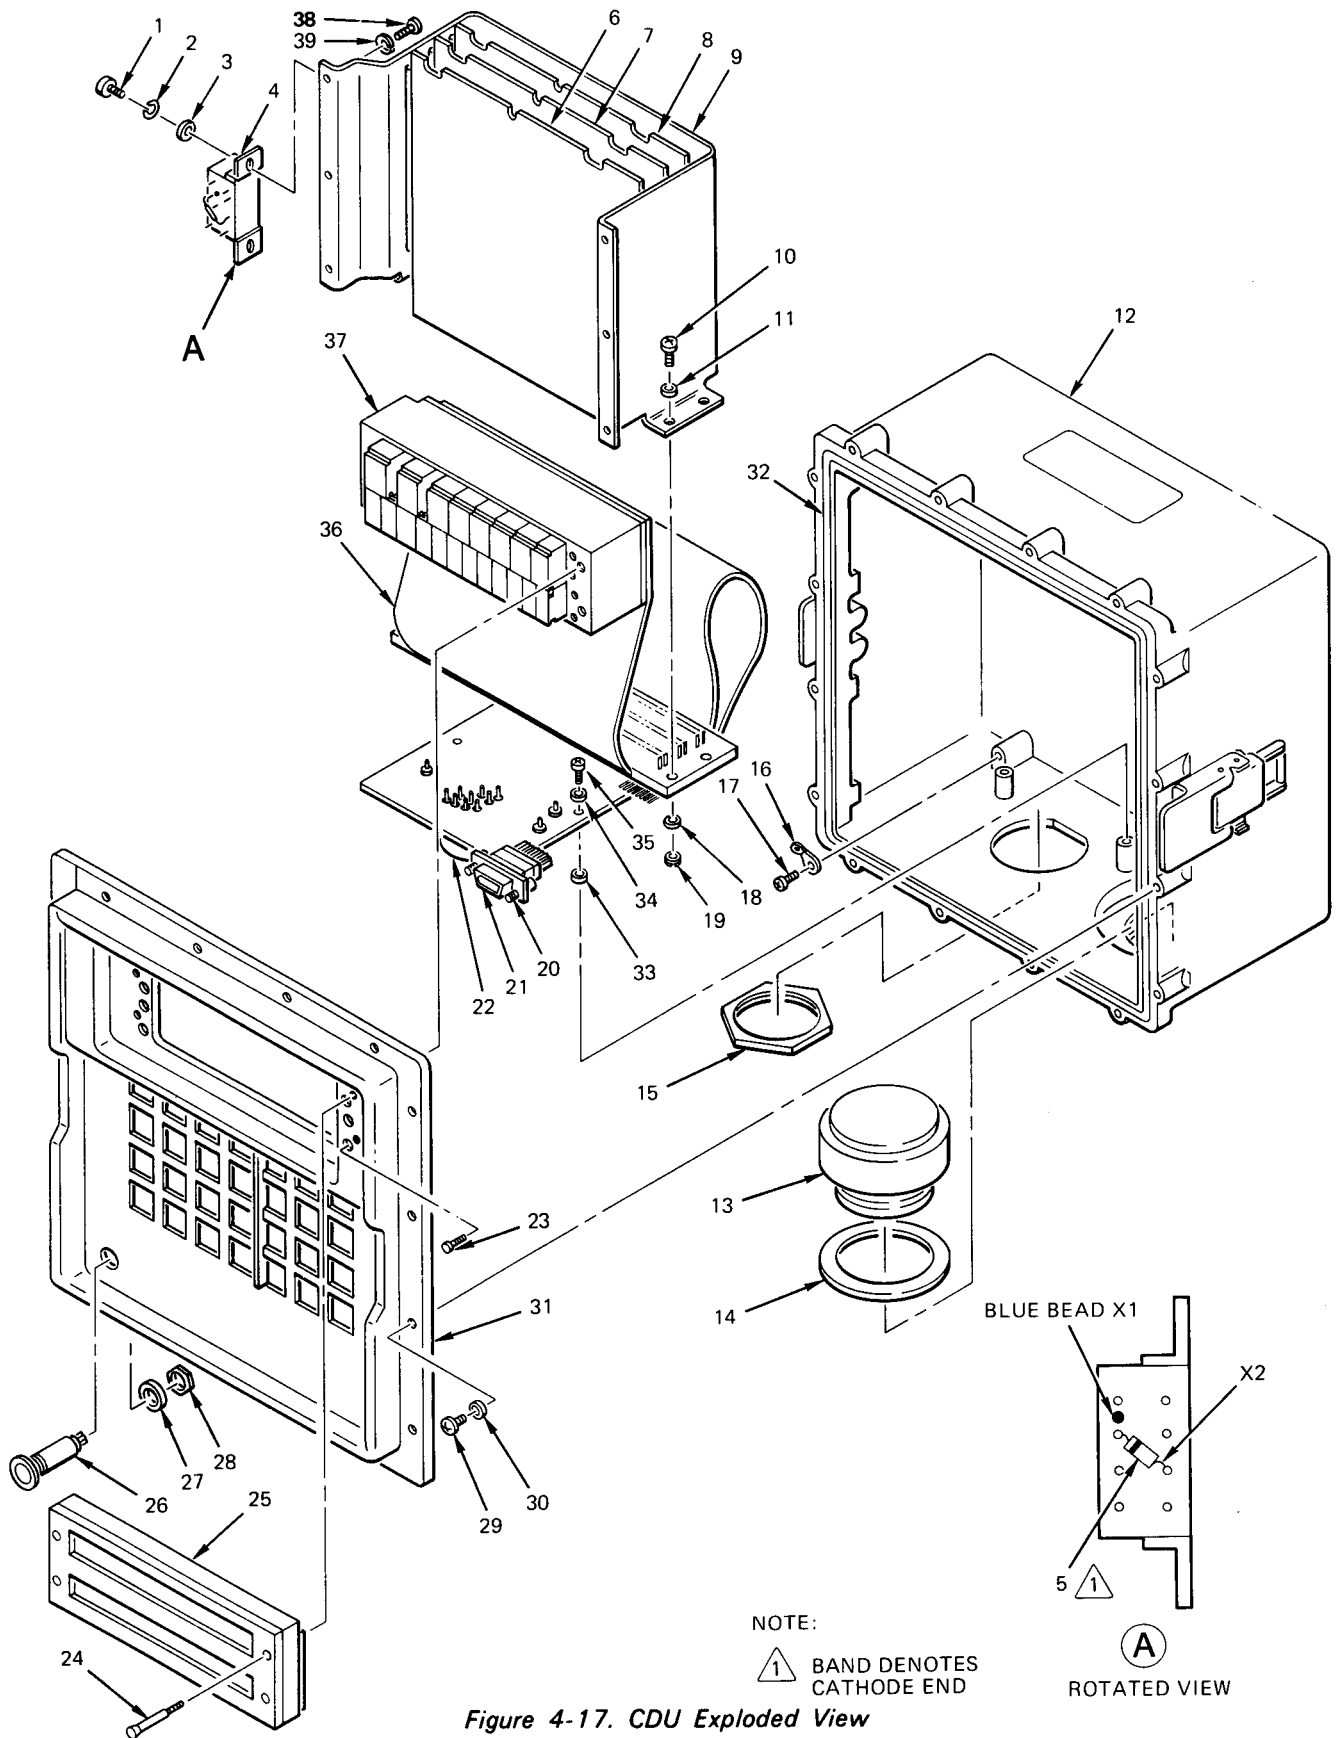

Figure 4-17. CDU Exploded View
b. **CDU Repair.** CDU repair consists of removal and replacement of circuit card assemblies, chassis-mounted components, cover, panel, gasket, and repair of the flexible harness, Figure 4-17 is an exploded view of the CDU, Refer to table 3-6 for circuit card identification. Replacement of circuit cards are described in paragraph 3-7.
(1) **Control and display unit cover.** Remove and replace control and display unit cover (12, figure 4-17) as follows:
Legend for Figure 4-17
(2) *Relay K1.* Remove and replace relay K1 (4, figure 4-17) as follows:
1. Prepare and install plastic tubing on diode. Solder diode CR1 leads to relay terminals observing polarity and note of figure 4-17.
2. Solder tagged wires to terminals of relay K1 (4).
3. Install relay K1 (4) and secure to control display unit holder (9) with two screws (1), lockwashers (2) and washers (3). To ensure proper orientation blue bead must be located as shown in figure 4-17.
4. Inspect gasket (32). Replace if cracked, torn loose, or excessively compressed.
5. Position control and display panel (31) against control and display unit cover (12). Torque 16 screws (29) and washers (30) securing control and display panel (31) to control and display unit cover (12) 5 inch-pounds using procedures described in paragraph 3-11.
(3) *Control and display panel.* Remove and replace control and display panel (31, figure 4-17) as follows:
(4) *Fault indicator DS2*. Remove and replace fault indicator DS2 (26, figure 4-17) as follows:
1. Install audible alarm gasket (14) in audible alarm mounting hole in control and display unit cover (12).
2. Screw audible alarm DS3 (13) in mounting hole in control display unit cover (12).
3. Prepare and solder two wires that connect audible alarm DS3 (13) using tagged wires from removed audible alarm as a guide (+ lead to E15, - lead to E14). Clean solder joint to remove flux.
4. Inspect gasket (32). Replace if cracked, tom, loose, or excessively compressed.
(6) *Control and display unit flexible harness assembly*. Damaged printed circuitry on the control display unit flexible harness assembly (36, figure 4-17) shall be repaired by splicing with haywires. Repair flexible harness assembly (36) as follows:
- (a) *Removal*. Remove display logic circuit card assemblies A1 (6), A2 (7), and keyboard and